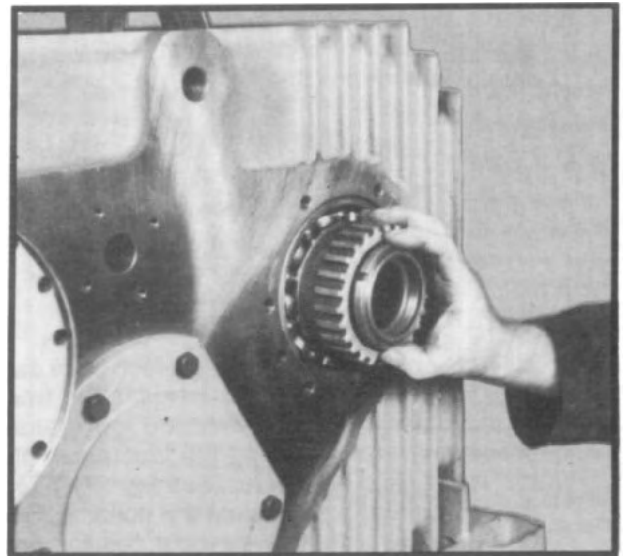

Fig. 117
2.8 Slide clutch gear onto front of shaft and secure to shaft with special nut. (Install nut finger tight.) (See fig. 117.)
3.8 Slide clutch gear onto front of shaft and secure to shaft with special nut. (See fig. 117.)